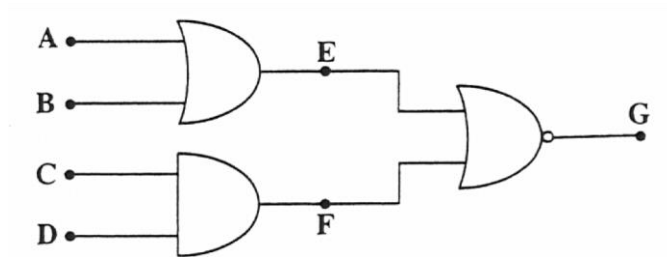

Figure 3
- (b) A logic circuit is shown in Figure 3.